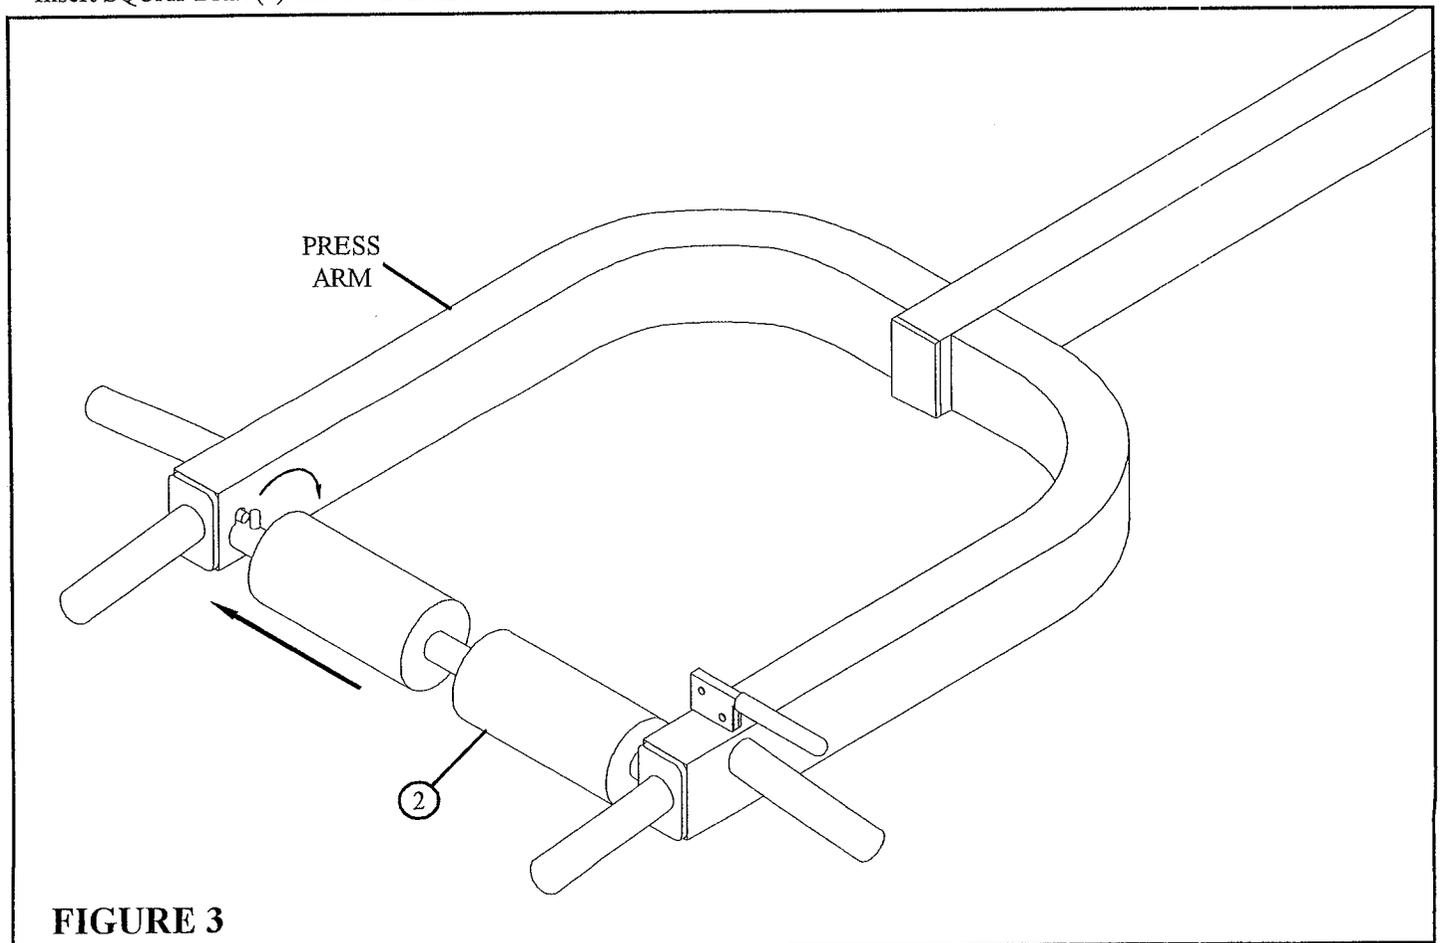

FIGURE 3
- Insert other end of SQUAT BAR (2) into the PRESS ARM. See FIGURE 3.
- Rotate SQUAT BAR (2) 90° to hold SQUAT BAR (2) in PRESS ARM. See FIGURE 3.